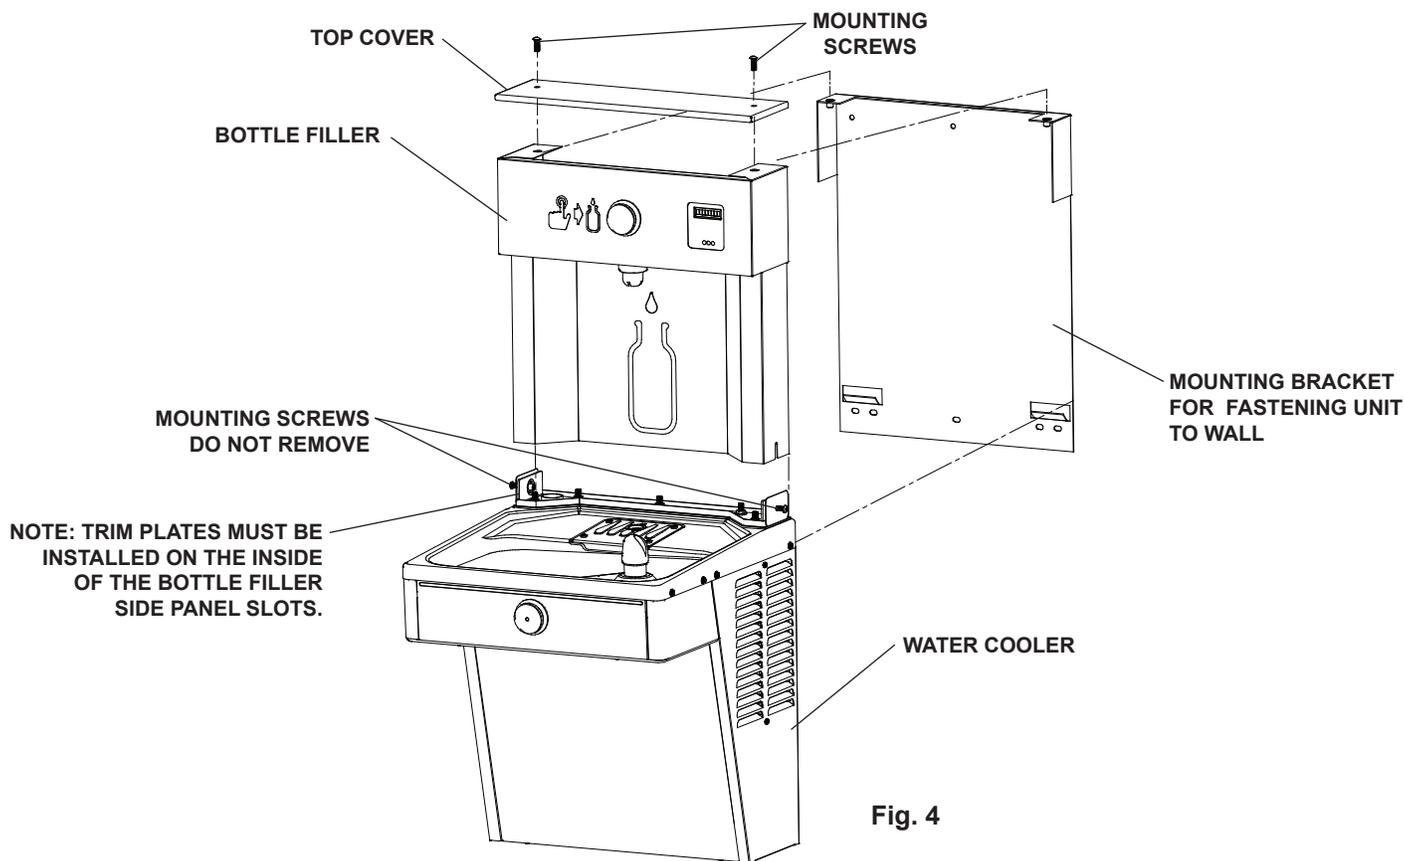

Fig. 4
- 4) **With the power cord and waterline** on top of water cooler, place Bottle Filler onto mounting bracket on basin. (See Fig. 4). Make sure bottle filler is installed properly on the basin gasket.
- 5) **Once Bottle Filler is installed on basin mounting bracket,** tighten the two screws (supplied) one on each side of the bottle filler. Install Top Cover on Bottle Filler (See Fig. 4) with two mounting screws (supplied). **Caution do not over tighten screws.**